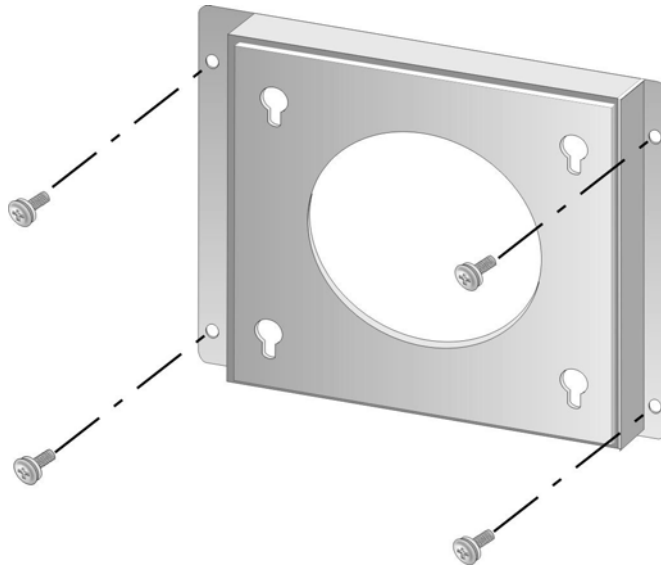

Figure 3-20: Wall-mounting Bracket
- Step 5:** Secure the mounting-bracket to the wall by inserting the retention screws into the four pilot holes and tightening them (**Figure 3-20**).